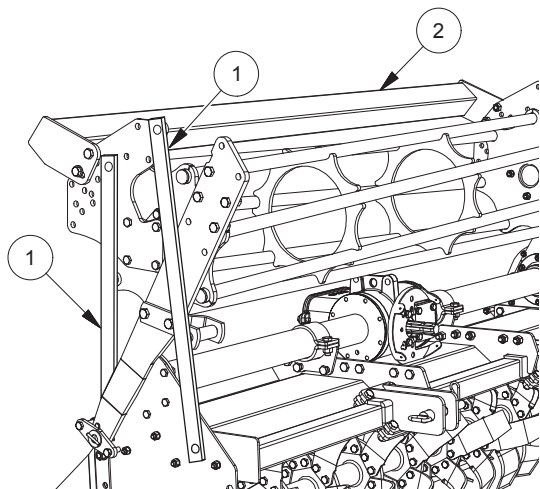

FIG. 8
- Loosen the screws fixing the clamps (1, "Fig. 8").